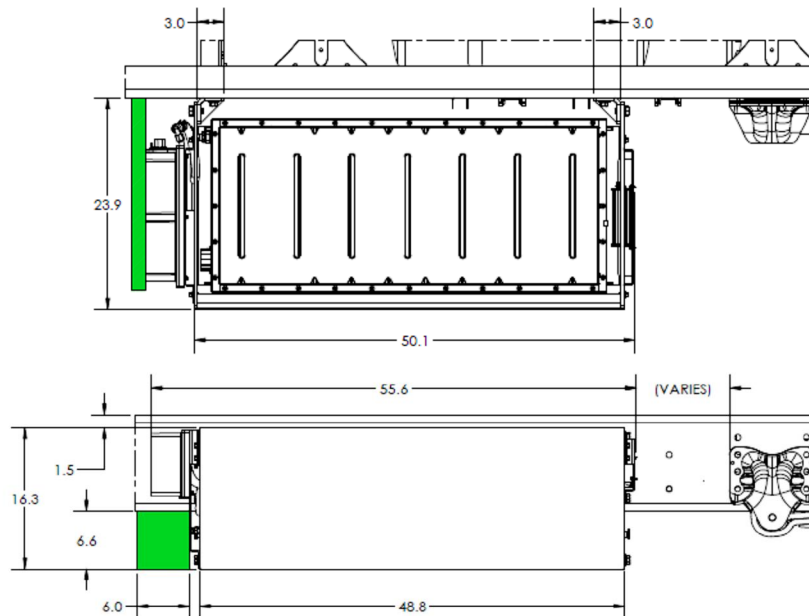

Figure 4. Street Side RESS (Non-standard location)
- Battery packs may move forward to avoid interference with cross member hardware (Figures 4 and 5).
- Areas shown in green below (Figures 4 and 5) represent installation clearance required for hybrid wiring harnesses and cooling hoses.